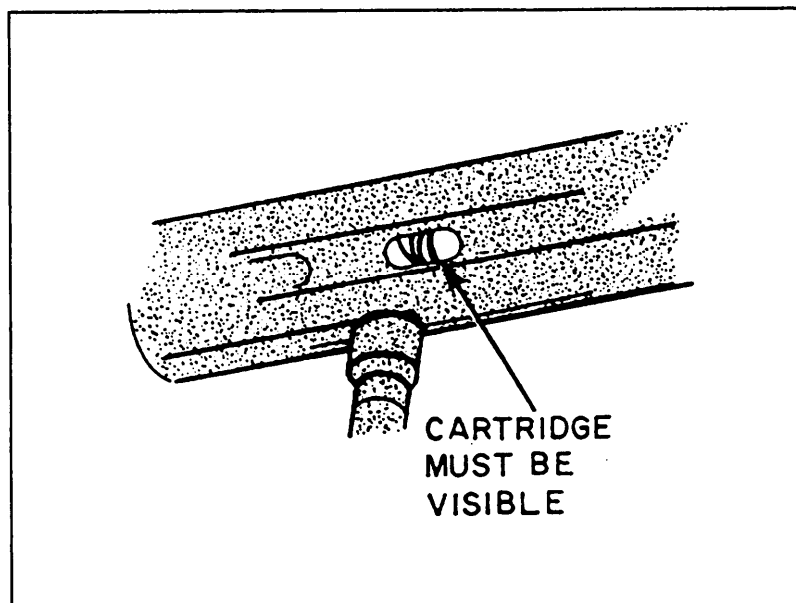

Figure 2-18.—Checking for cartridge.
5. The cartridge must be installed (fig. 2-18). Look through the port and verify that the cartridge is installed.